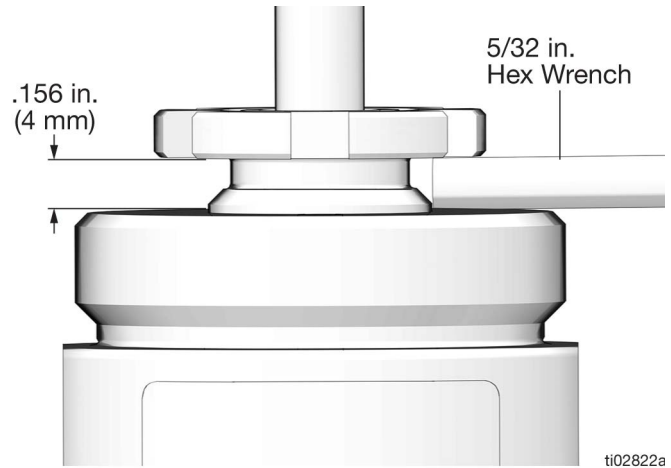

FIG. 23:
4. Set the height of the packing nut (210) with a hex key to .156 in. (4.0 mm) (FIG. 23).